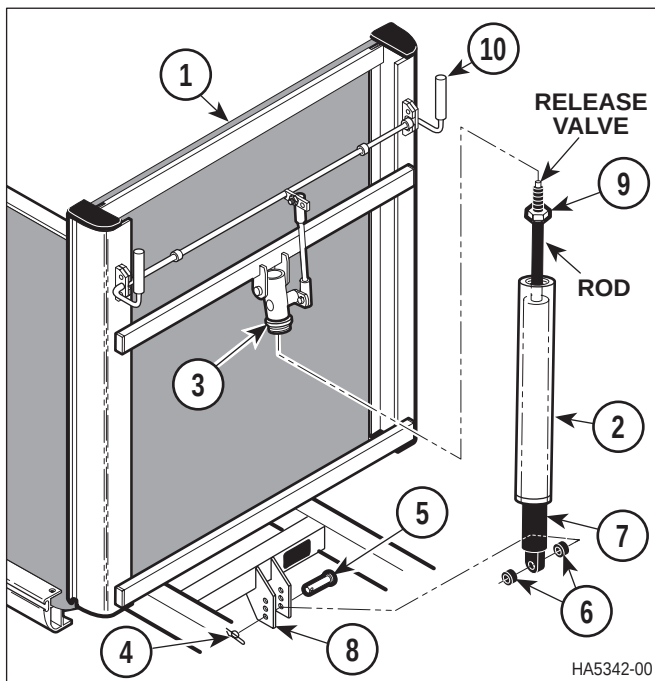

Figure 4-19. Fowler Gas Spring Removal / Installation
- (1) Raise the Fowler section (1, Figure 4-19) to the "up" position if possible.